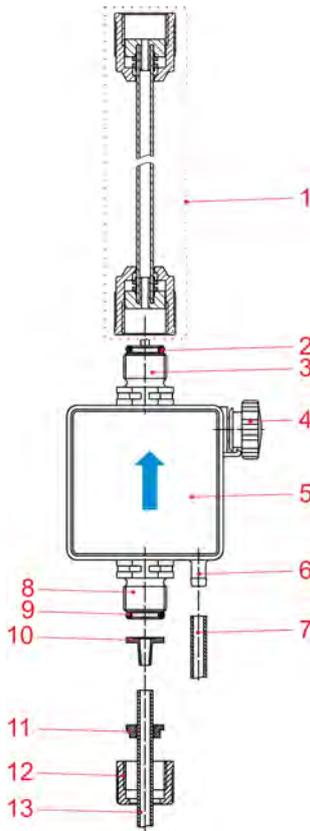

Fig. 9: Hydraulic installation
When connecting the suction and pressure line, ensure that the required seal is achieved by mounting O-rings on the connections ( Fig. 9 , item 5 and item 11).
1. ➤ Fit the O-ring ( Fig. 9 , item 2) in the valve groove.
4. ➤ Mount the prefabricated metering line ( Fig. 9 , item 1).
5. ➤ Lay the O-ring ( Fig. 9 , item 2) in the valve groove and tighten the union nut.
2. ➤ Push the union nut ( Fig. 9 , item 12) and clamping piece ( Fig. 9 , item 11) over the hose.
3. ➤ Insert the union nut and clamping part up to the stop collar on the tapered part ( Fig. 9 , item 10).
4. ➤ Fit the O-ring ( Fig. 9 , item 9) in the valve groove.